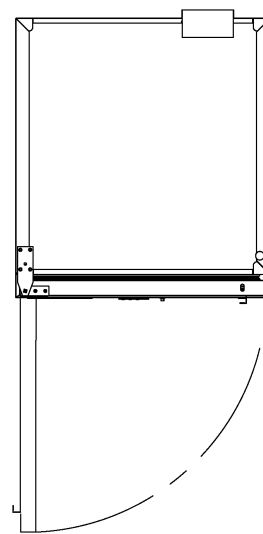

Fig 4.
- The oven doors should also be allowed to open and close at full range. (Fig 4)